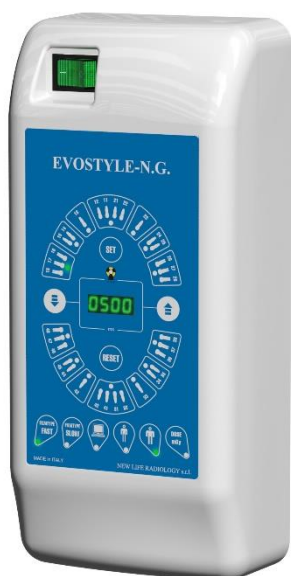

fig. 1
- ✓ This device is provided with a plaque for the wall mounting with built-in timer **(A)**, closed with a plastic cover (fig.1).